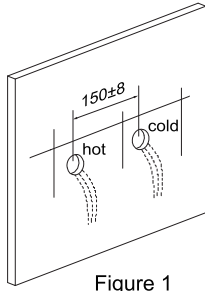

Figure 1
a) Run the water around 1-2 minutes to clean the water pipe (Figure 1).